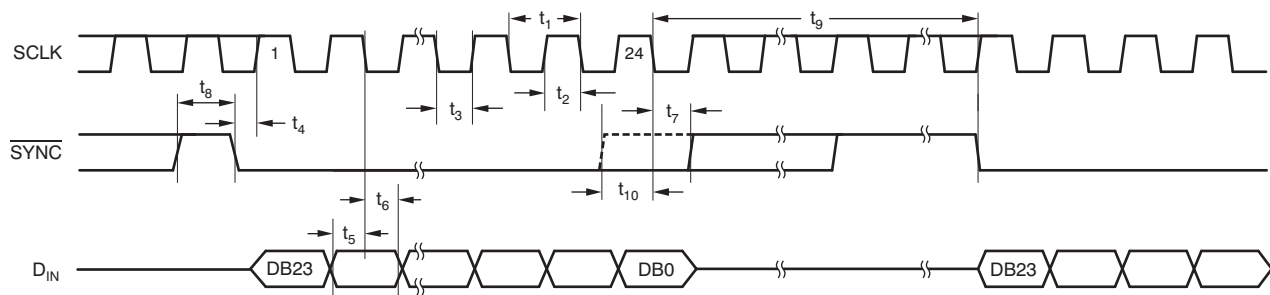

Figure 2. Serial Write Operation: 16-Bit (DAC8411)
(1) All input signals are specified with $t_R = t_F = 3\text{ ns}$ (10% to 90% of AV_{DD}) and timed from a voltage level of $(V_{IL} + V_{IH})/2$.
(2) See Figure 2 timing diagram.